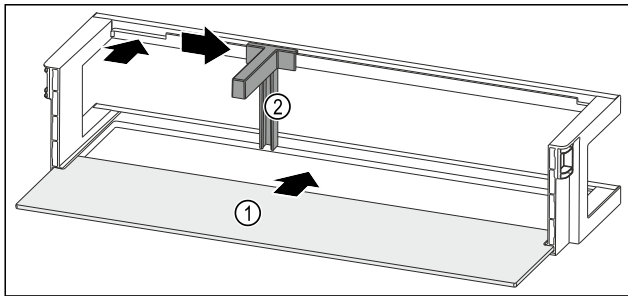

Fig. 232 Door rack with shelf
- ▶ Push the shelf Fig. 232 (1) into the side recesses.
- ▶ Insert the bottle holder Fig. 232 (2) in the recess.
- ▶ Push the bottle holder Fig. 232 (2) to the desired position to the side.